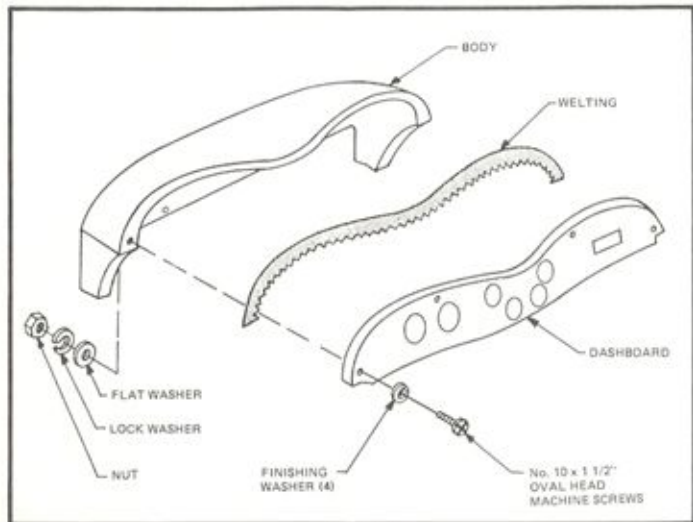

Figure 66
- Align the dashboard with the body, cutting a recess for the steering column as necessary. Drill 4 holes, $3/16$ ", approximately at the locations shown. (Figure 66) Bolt in place using No. 10 x $1\ 1/2$ " oval head machine screws with finishing washer, flat washer, lock washer and nut. Do not tighten all the way. Cut a piece of welting to length and insert between dash and body, notching where necessary to prevent kinks. Tighten bolts.